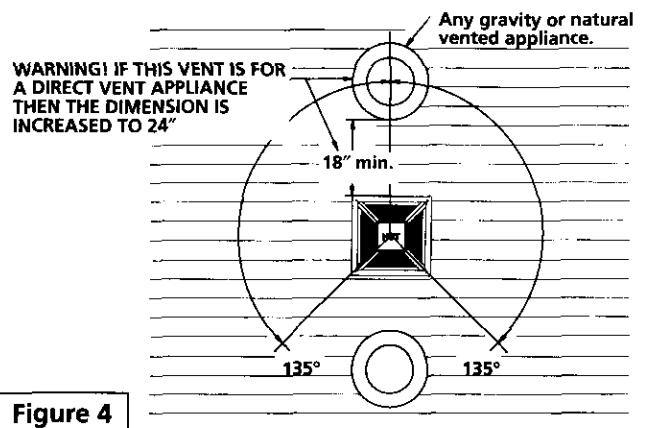

Figure 4
- 18" minimum from other gravity or natural appliance outlet vents when directly above or 135° to either side of center line. Figure 4.